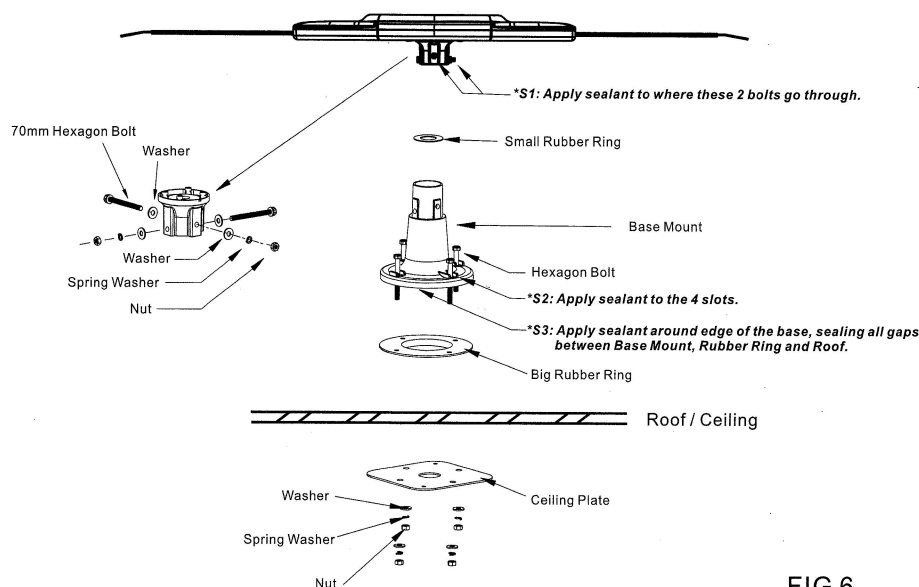

FIG 6.
STEP 5: Back into the vehicle, install the ceiling plate to the 4 hexagon bolts which come through the roof. Necessary hardware is included in the packaging. (Refer to FIG 6.)
STEP 6: Apply sealant to all bolts on the base mount (Refer to where marks *S in FIG 6.).